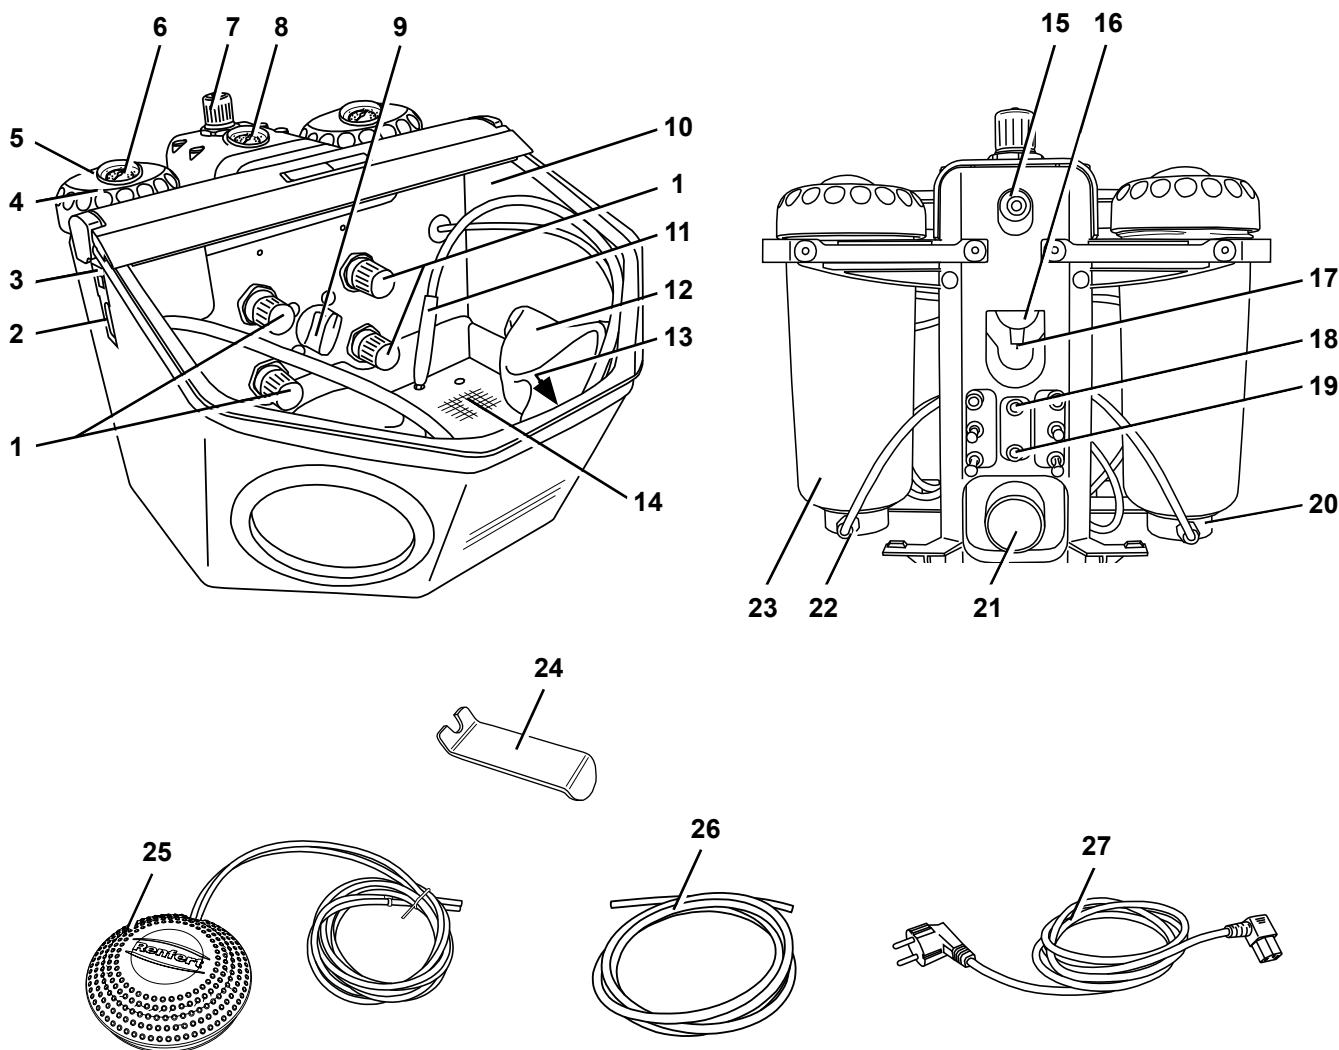

Fig. 1
- Push the compressed air tube (26) onto the tube connection point (15) as far as it will go. In doing so there will be a slight resistance to overcome.
- Check whether the pressure is at the required level (see tech. data). Display will be shown on the manometer (8, Fig. 1).